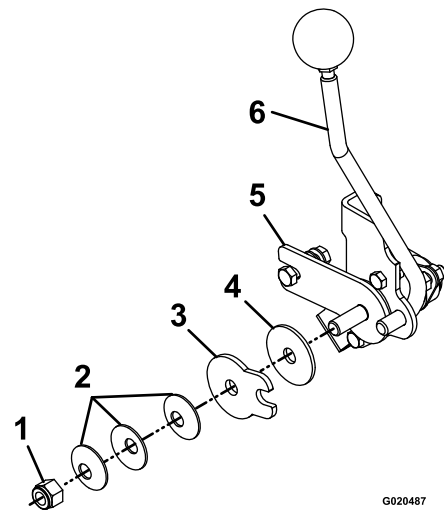

Figure 54
3. To adjust the tension, adjust the pivot nut, which is located at the end of the motion-control shaft in front of the right console (Figure 54).